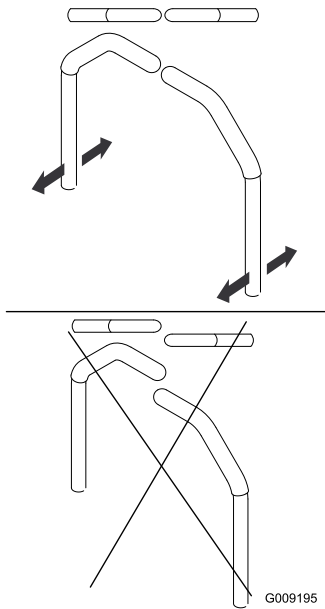

Figure 84
4. Align the levers front-to-rear position by bring the levers together to the NEUTRAL position and slide them until they are aligned, then tighten the bolts (Figure 84).